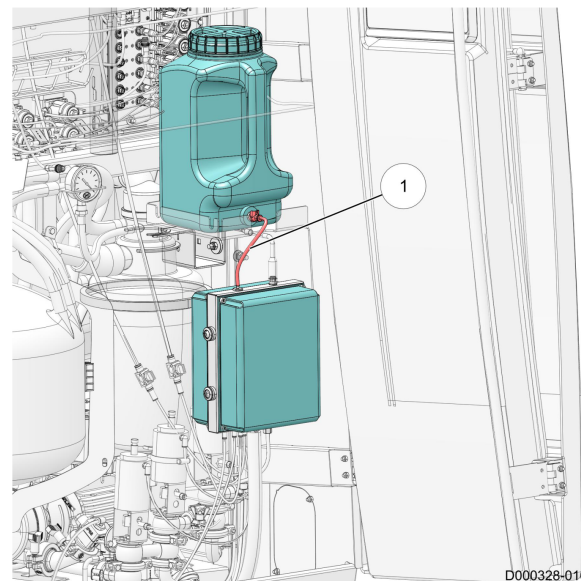

Figure 23. Reagent container
2. Disconnect the reagent supply tube (1) from the reagent container (see figure 23 on page 5-11).
9. Install the reagent container on the MQC-C bracket (see figure 23 on page 5-11).
10. Connect the reagent supply tube (1) to the reagent container.